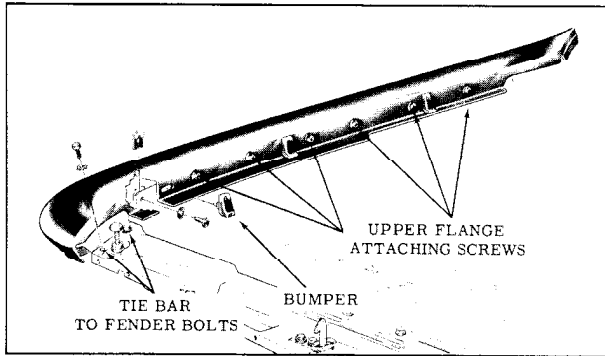

Fig. 11-10 Fender Upper Attachment
5. Remove fender to tie bar bolts. (Fig. 11-10)
7. Remove the fender upper flange attaching screws. (Fig. 11-10)